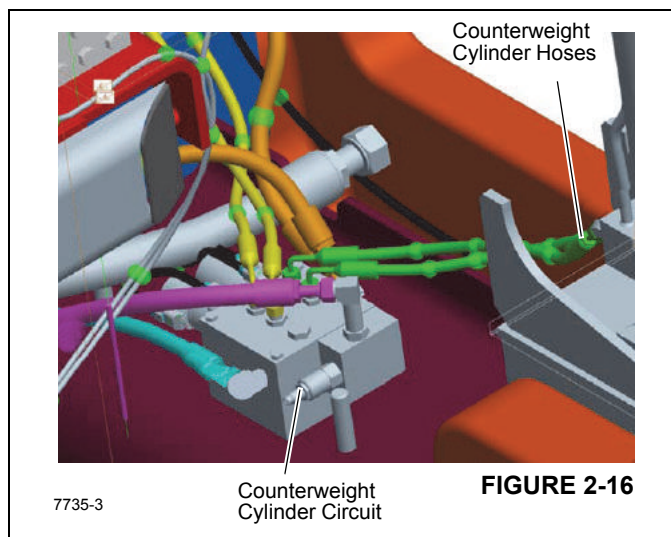

FIGURE 2-16
- 1. The Counterweight Cylinder circuit has a single reducing valve in the counterweight removal manifold with a setting of 79 bar (1150 psi) as shown in (Figure 2-16).